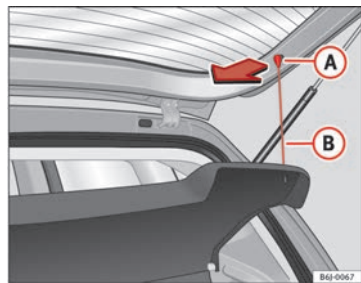

Fig. 89 Rear shelf
- Disengage the loops ⇒ fig. 89 (B) from the retaining pins (A)